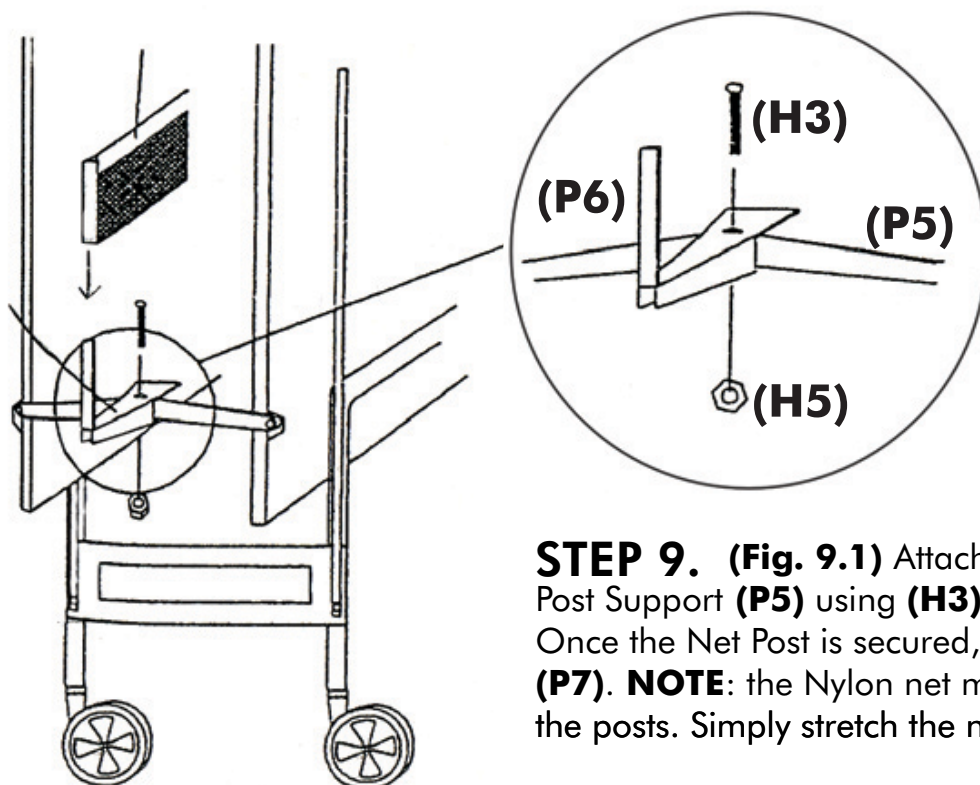

FIG. 9.1
STEP 9. (Fig. 9.1) Attach the Net Post **(P6)** to the Net Post Support **(P5)** using **(H3)** and **(H5)** as shown in FIG. 9.1. Once the Net Post is secured, you can attach the Nylon Net **(P7)**. **NOTE:** the Nylon net may appear too small to reach the posts. Simply stretch the net until it slides on the posts.